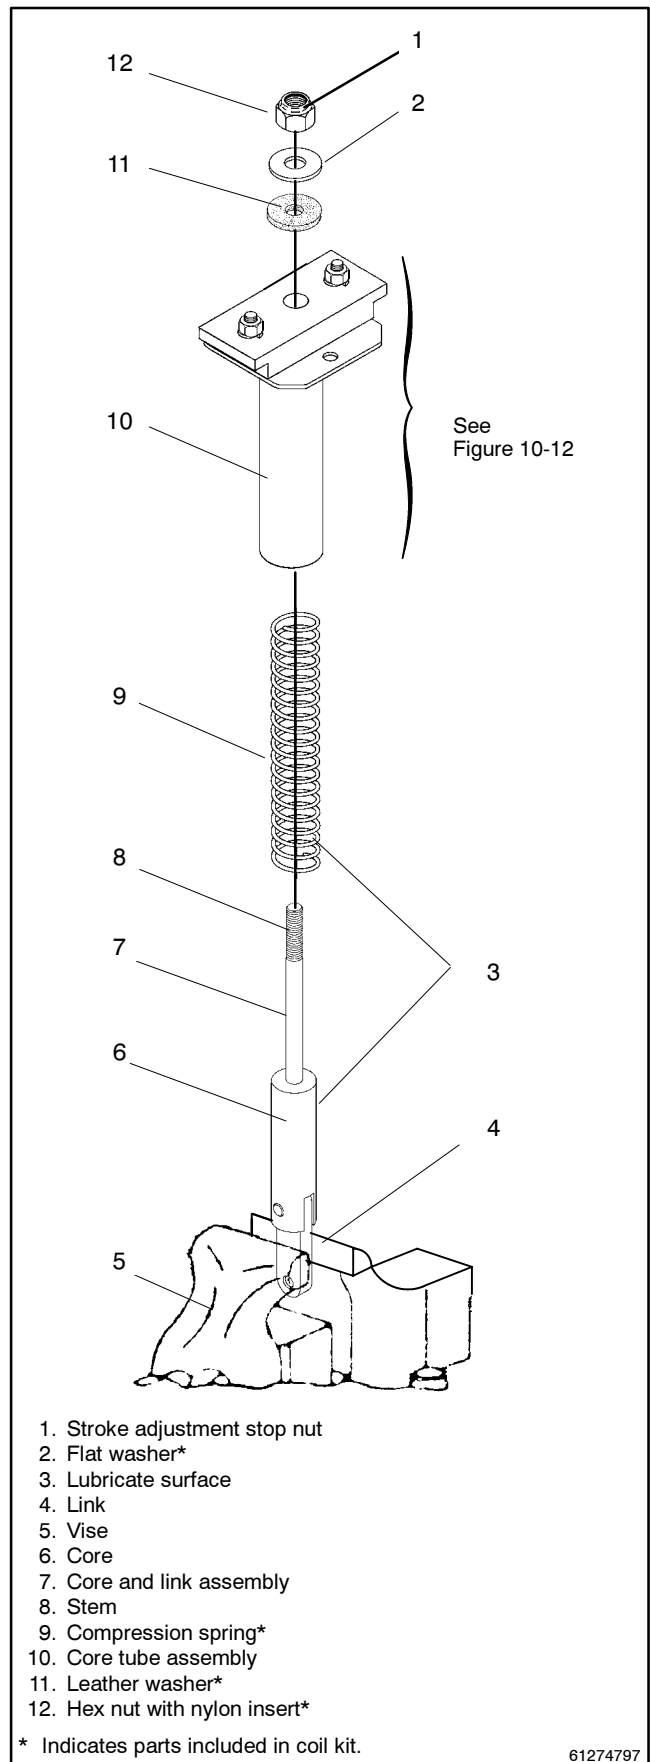
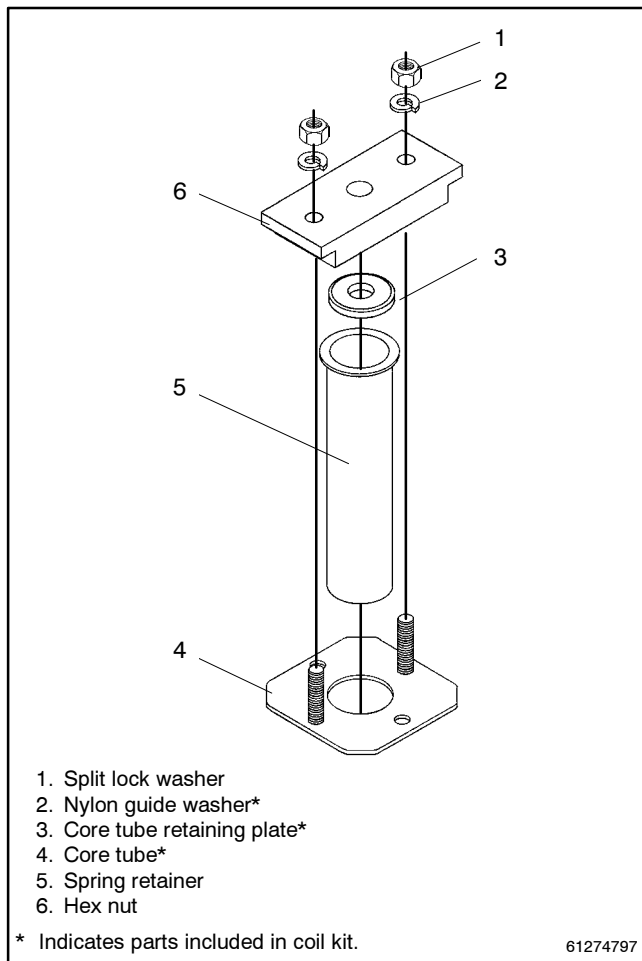

Figure 10-11 Core Tube and Core Disassembly
Figure 10-12 Core Tube Assembly
Disassembly of the core tube assembly is normally not required. If, however, the coil has overheated and has damaged the core tube assembly, rebuilding it is necessary. You will need an assistant to help you reassemble it, and you need to reset the stroke. See Figure 10-11 and Figure 10-12.
1. Remove the core and compression spring (Figure 10-11). Hold the link in a vise to secure the assembly. Use a 3/4 in. nutdriver or wrench to remove the center large hex nut from the threaded stem end of the core.
2. Take apart the core tube assembly (Figure 10-12). Use a 1/2 in. nutdriver or wrench to remove the left and right hex nuts and lockwashers and pull the spring retainer off the core tube retaining plate. Then push the core tube through the retaining plate to remove it.
You will need an assistant to help compress the spring while you install the hardware. See Figure 10-11 and Figure 10-12.
1. Put together the core tube assembly (Figure 10-12)). Insert the core tube through the retaining plate (flared end seats on top). Then install the spring retainer (recessed hole inward) onto the retaining plate and use a 1/2 in. nutdriver or wrench to tighten the two 5/16-18 hex nuts on 5/16 in. lock washers.
3. Assemble the core, spring, and core tube assembly (Figure 10-11). With the link held securely in a vise, set the lubricated core spring onto the core stem. Check to see if the nylon guide washer is still inside the spring retainer; if it is not, place it inside the spring retainer.